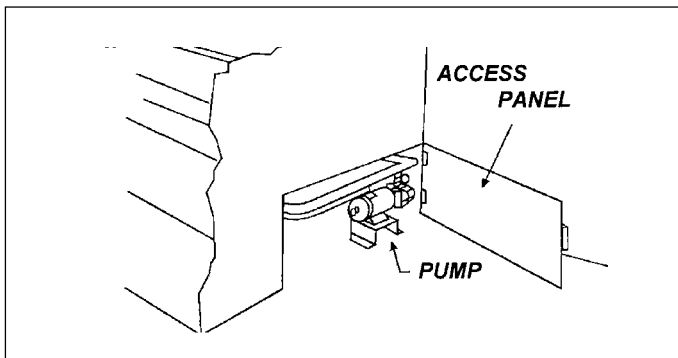

Figure 1— Access panel necessary when optional skirt is not ordered. A 2 feet x 2 feet opening is required.
1.4 Keep in mind, the Builder Series® line of soaking tubs and whirlpools are designed for alcove (inset within a wall) or drop in installation. If your specific model does not have an apron, skirt or other form of access to service the motor, pump, electrical connections or plumbing, alternative access plans should be decided at this time. (See Figure 1) Some Aqua Glass models do feature removable skirts and access panels.
2.17 Take care to install drywall and close off plumbing access. Before completing the drywall installation, provide a plumbing access area; (See Figure 1) thus, making sure the water pump is easily accessible in case of service needs.